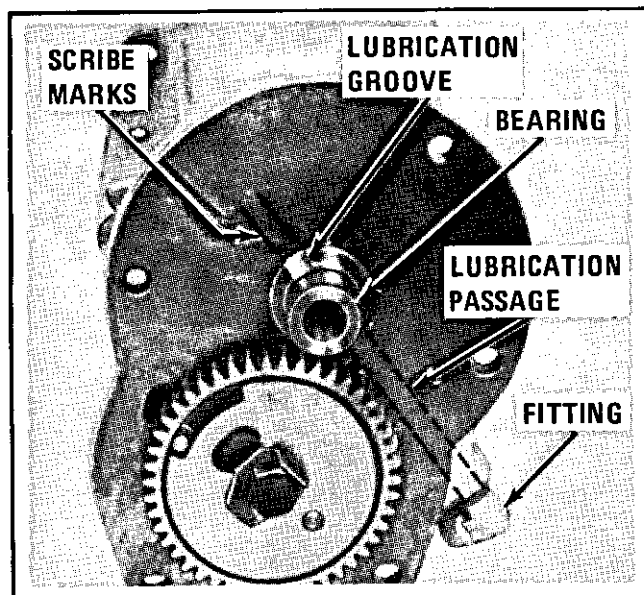

Figure 2-8. Rack bearing alignment
6. Remove rack (26), spacers (27), and lifters (28).
7. Remove cap screw (30), lock plate (31), retaining plate (32), spring (33), gear assembly (29), and pin (34).
8. Remove sleeve (36), camshaft (37), pin (35), and bearings (39, 40).
9. Before removing rack bearing (41), scribe two marks on face of housing (50) above groove on bearing (41). This indicates alignment of groove on bearing with drilled lubrication passage at assembly (see figure 2-8).
10. Cup plug (43), pins (44, 45), ball plugs (46), pins (47), and plugs (48, 49) need not be removed from housing (50) unless replacement is necessary.
3. Install camshaft bearing (38) in housing (50) so that oil hole in bearing aligns with oil passage in housing.
4. Install fuel rack bearing (41) in housing (50) so that groove in bearing aligns with scribe marks on housing (refer to figure 2-8). Install bearing (41) at a depth of 0.190 to 0.200 inch from face of housing.
5. Assemble each lifter (28) and spacer (27) in same location (cavity) as removed. Lifters (28) must be assembled before rack (26).